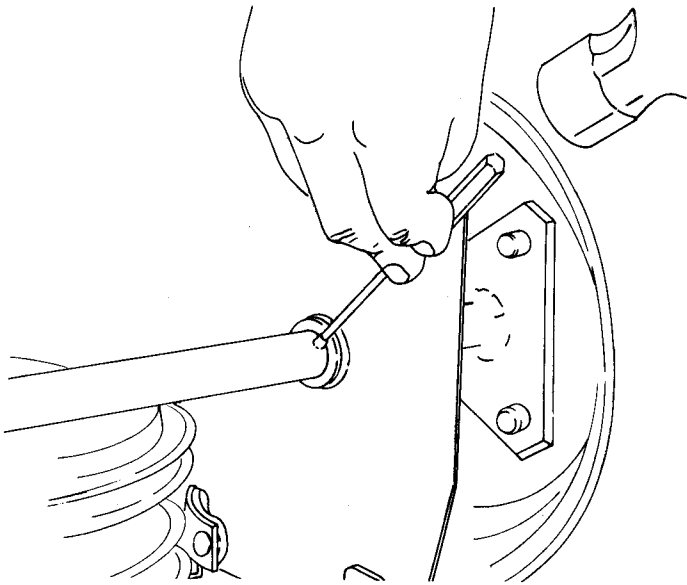

FIGURE 3.29 — AXLE DRIVE PIN REMOVAL
STEP 1: Drive the roll pin out of the axle shaft on the right side as shown in Figure 3.29.